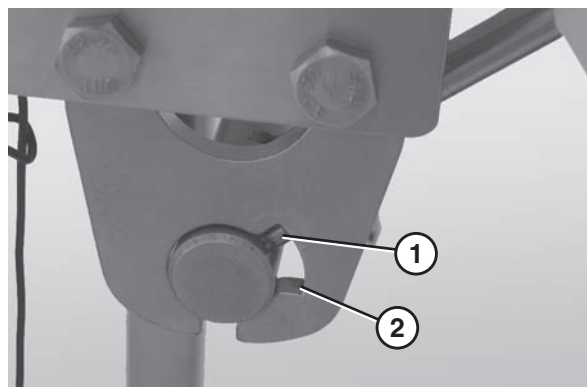

Figure 28
3. Insert the notched end of the scraper shaft (Figure 28, item 1) so that it is situated within the groove in the mounting plate (Figure 28, item 2).